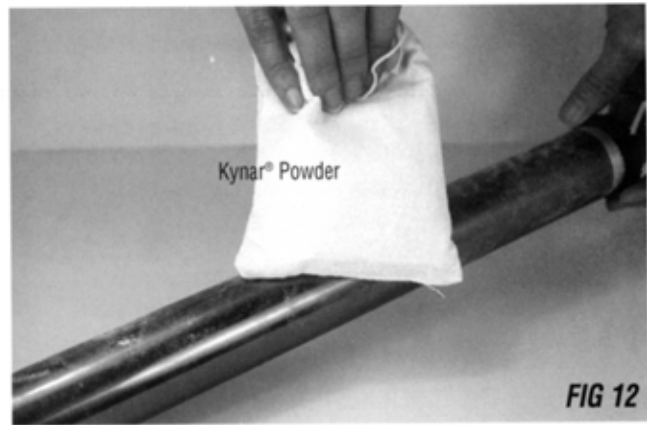

FIG 12
3. Pad the OPC drum and the edge of the wiper blade with Kynar® powder. (Figure 12)